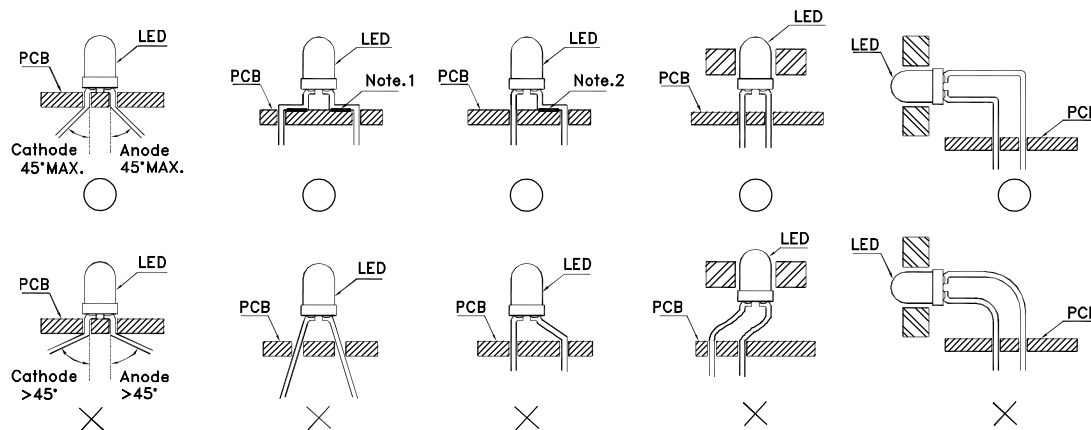

Fig.1
1. The lead pitch of the LED must match the pitch of the mounting holes on the PCB during component placement. Lead-forming may be required to insure the lead pitch matches the hole pitch. Refer to the figure below for proper lead forming procedures. (Fig. 1)